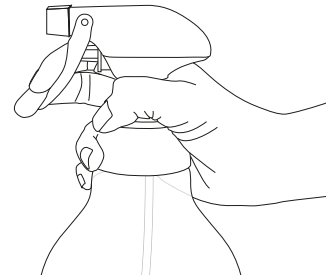

Figure 112: Check for Leaks with a Suitable Foaming Agent
11. Check brake chambers, air lines and connections for air leaks. Ensure that there is at least 620 kPa of pressure is available. Refer Figure 112.